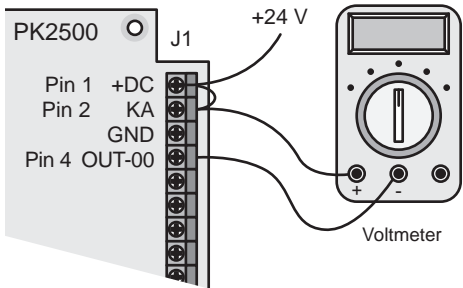

Figure 4-3. OUT-00 Status Example
3. Connect a wire from pin 1, header J1, on the PK2500 (+DC) to pin 2, header J1 (KA). Connect a device such as a voltmeter between pin 4, header J1 (OUT-00) and pin 2 (KA), as shown in Figure 4-3, to monitor the status of the driver.